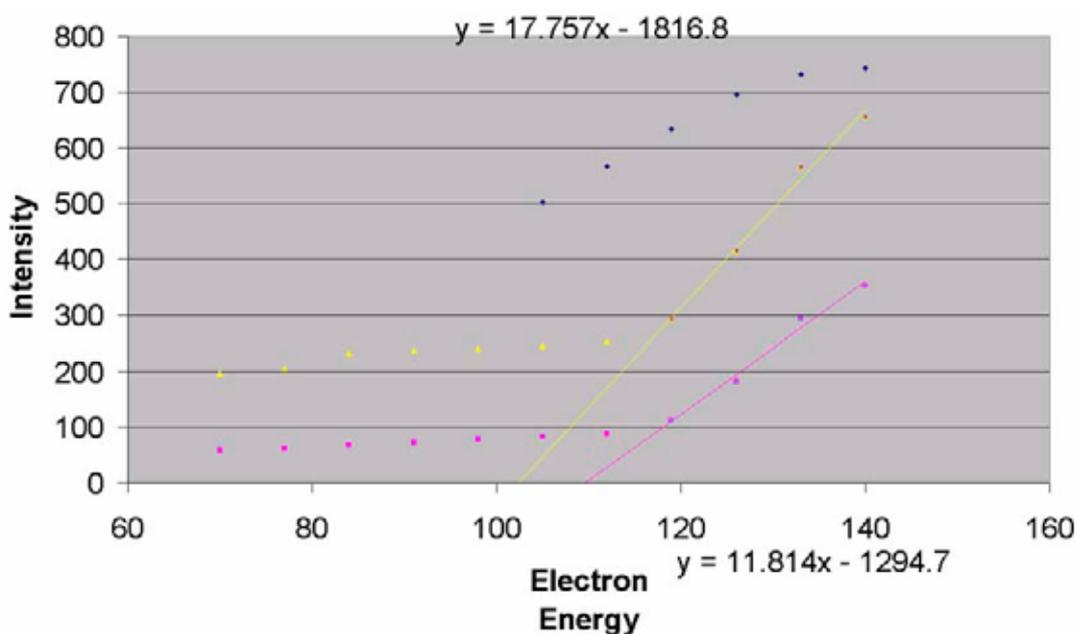

Figure 5-31. Signal Intensity on m/z 2 vs. Electron Energy
- Record the signal intensity on mass 2 versus the electron energy (see Figure 5-31).